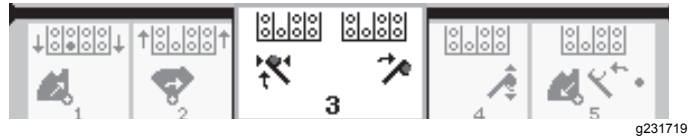

Figure 32
6. Release the rocker switch to proceed to the next step in the sequence (Figure 32).